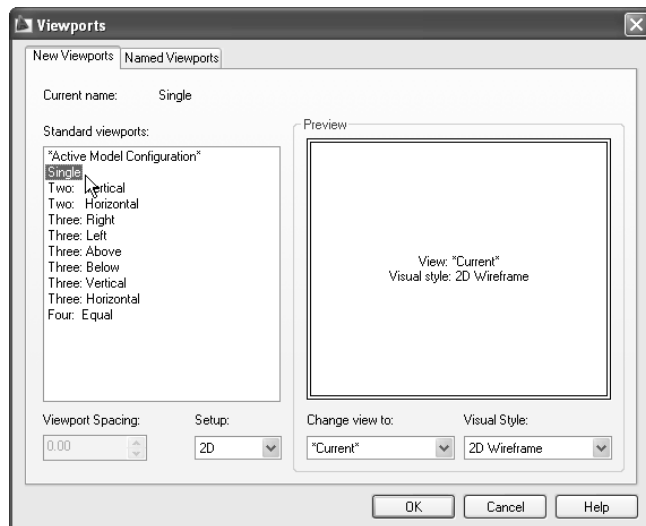

Figure 12.9
2. Make sure the New Viewports tab is selected, and then select the Single option in the Standard Viewports list, as shown in Figure 12.9.